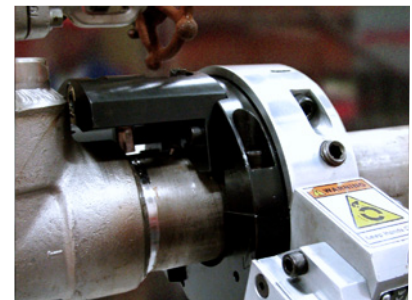

Figure 5 - Socket weld kits precisely remove weld filler
E.H. Wachs offers multiple solutions to get the weld out. For weld excavation on small diameter pipe and tube from 1" through 6" (25.4 - 152.4mm) O.D. our SDSF split frames are ideally suited. They're also the basis of our Socket Weld Removal kits, available in both axial (figure 5) and radial versions to accommodate most clearance issues.